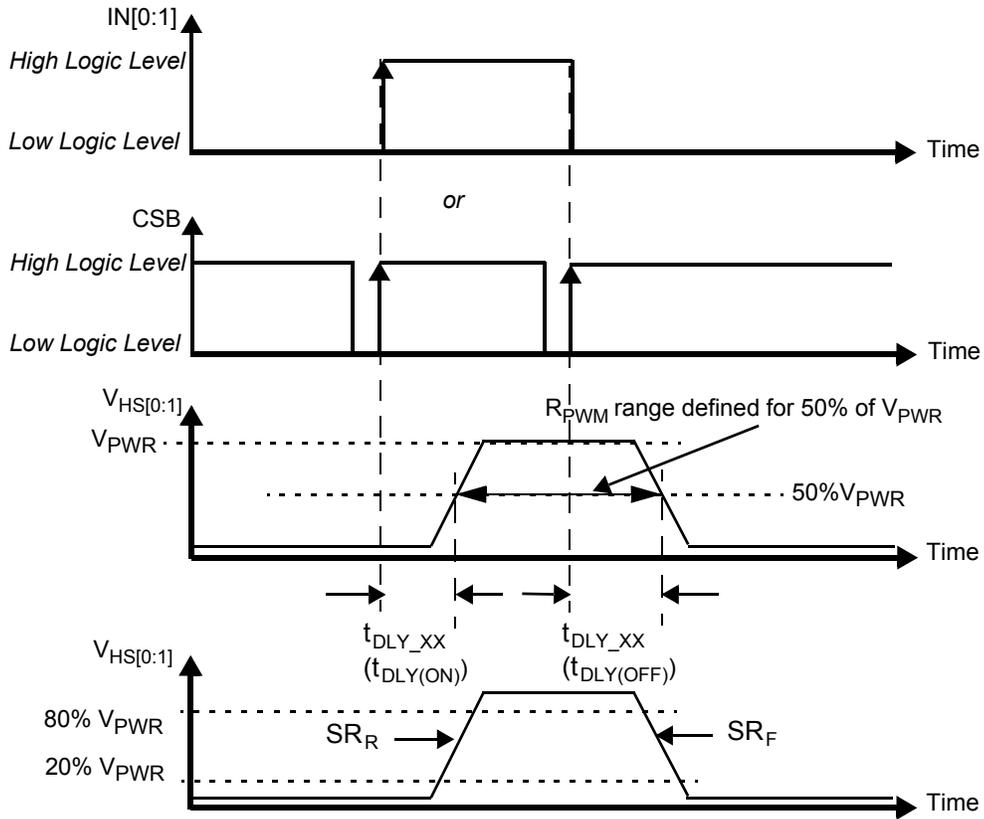
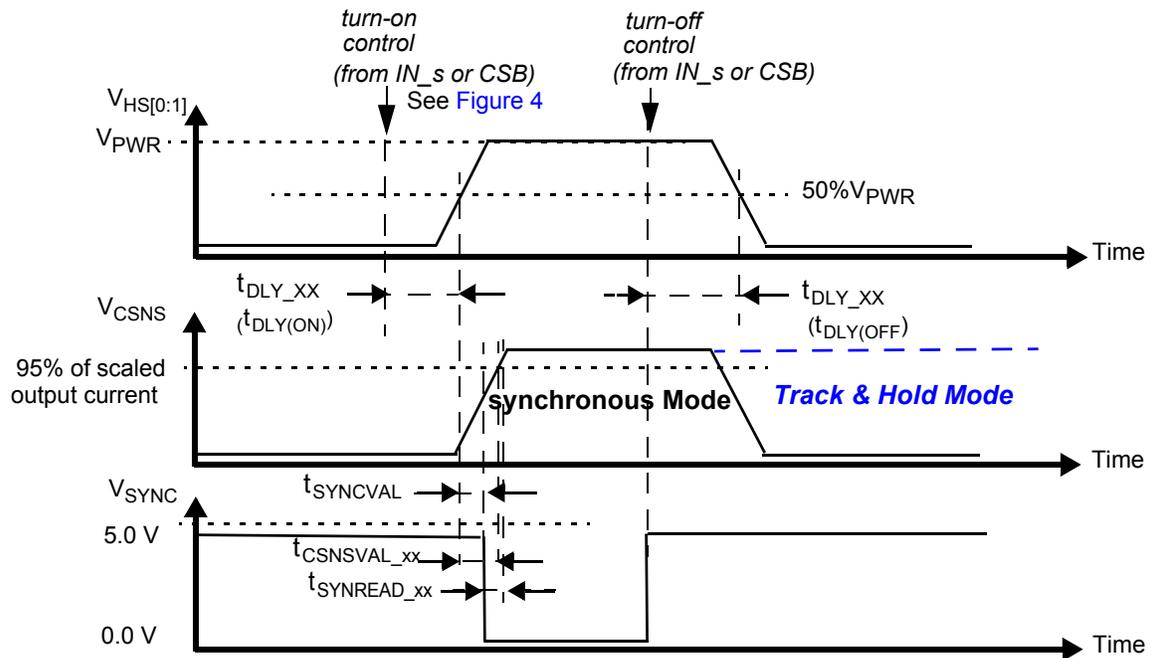

Figure 4. Output Voltage Slew Rate and Delay
Figure 9. Synchronous & Track-and-Hold Current Sensing Modes: Associated Delay & Settling Times
28. Rising and Falling edge slew rates specified for a 20% to 80% voltage variation on a  $10.0\ \Omega$  resistive load (see Figure 4).
30. Time required to switch off the channel after detection of overtemperature (OT), overcurrent (OC), SC or UV error (time measured between start of the negative edge on the FSB pin and the falling edge on the output voltage until  $V(\text{HS}[0:1]) = 50\%$  of  $V_{PWR}$ ).
31. Settling time ( $= t_{CSNSVAL\_XX}$ ), SYNC output signal delay ( $= t_{SYNCVAL\_XX}$ ) and Read-out delay ( $= t_{SYNREAD\_XX}$ ) are defined for a stepped load current using a  $10\ \Omega$  resistive load for  $\text{CSNS\_RATIO\_s} = 0$ . (see Figure 9 and Output Current Monitoring \(CSNS\)).
To synchronize current sensing with an external process, the SYNC signal can be connected to a digital input of an external MCU. SYNC is asserted logic low when the current sense signal is accurate and ready to be read. The current sense signal on the CSNS pin has the specified accuracy  $t_{SYNCREAD\_XX}$  seconds after the falling edge on the SYNC pin (Figure 9) and remains valid until a rising edge is generated. The rising edge that is generated by the SYNC pin at the turn-OFF instant (internal or external) may also be used to implement synchronization with the external MCU. Parameter  $t_{SYNCVAL\_XX}$  is defined as the time between the instant at the middle of the output-voltage rising edge ( $HS[0:1] = 50\%$  of  $V_{PWR}$ ), and the instant at which the voltage on the SYNC-pin drops below 0.4 V ( $V_{SOL}$ ). The SYNC pins of different devices can be connected together to save micro-controller input channels. However, in this configuration, the CSNS function of only one device should be active at a time. Otherwise, the MCU does not determine the origin of the SYNC signal. The SYNC pin is open drain and requires an external pull-up resistor to  $V_{DD}$ .